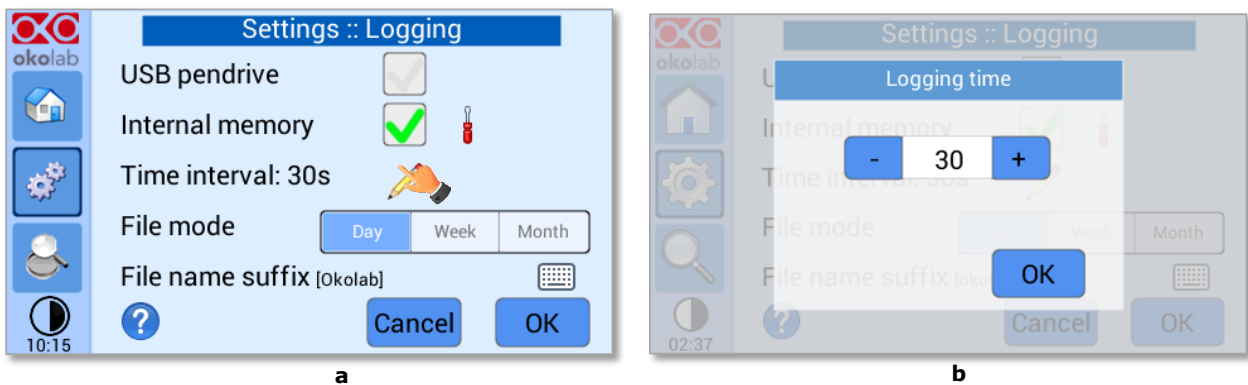
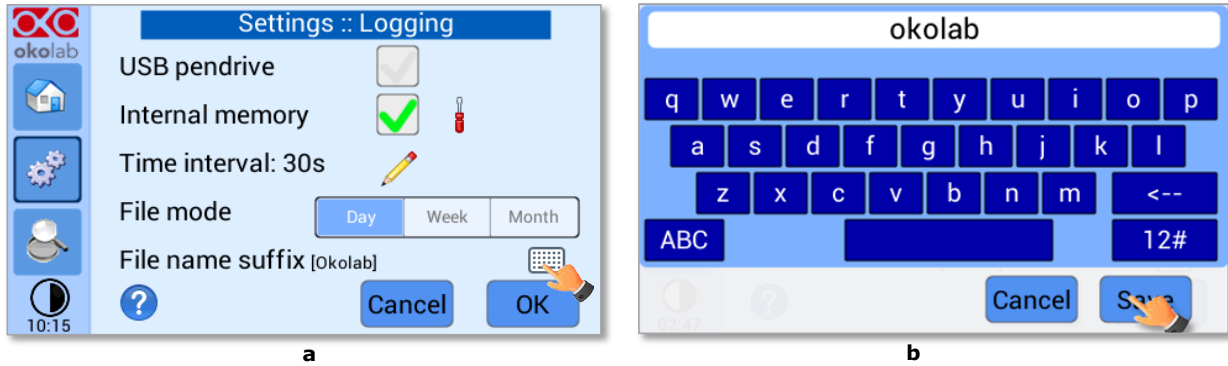
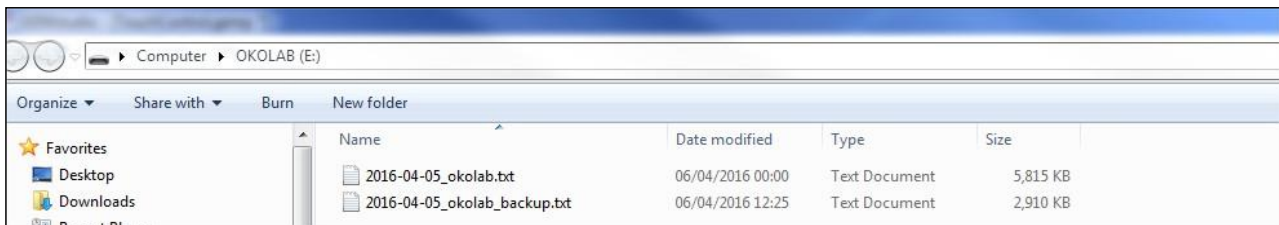

Figure 60. How to set the logging time (a – b).
Figure 61. Data Logging. How to define the suffix for the downloaded files (a – b).
Figure 62. Downloaded files on the pen drive.
3. Press on the icon  to insert the *Time Interval* i.e. the frequency with which you want to record a data point, as shown in Figure 60. In this example a data point is logged every 30 seconds, you can change *Time Interval* in the range 1-60 seconds.
4. Choose how you want to organize the data when downloaded, by pressing on Day, Week or Month (see Figure 60 a.)
5. Write the file name suffix to be reported in the downloaded files by pressing on the keyboard icon  (see Figure 61 a).
6. Press Save (see Figure 61 b).
Tip ► With the selections as in Figure 60 and in Figure 61, the data will be downloaded on the USB drive as shown in Figure 62.